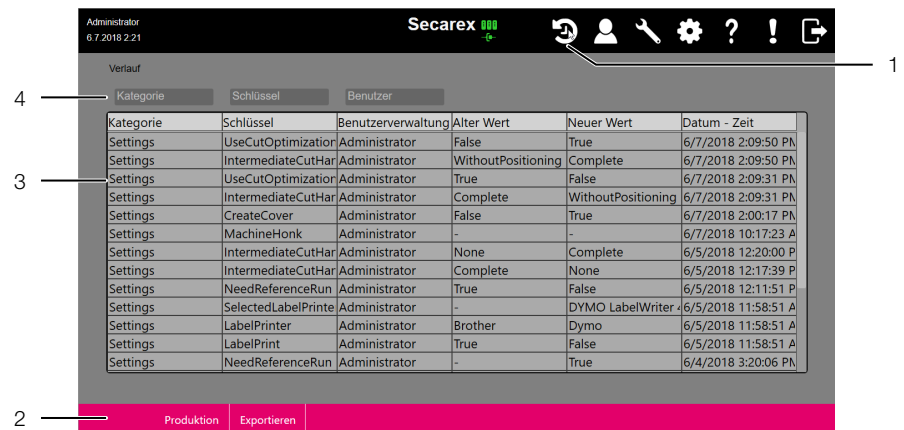

Fig. 18: "History" screen
- Press the "History" button (fig. 18, item 1) in the header line of the Secarex software.
- Press the "Export" button (fig. 18, item 2).